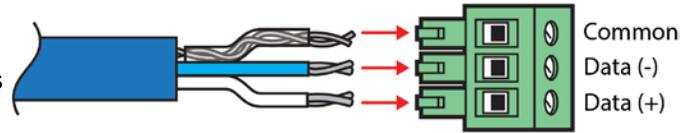

Figure 5. Cable pinout for DMX cables in and out of junction box.
5. Install included 3-position connectors on DMX cable as shown in Figure 5 making sure to insulate the shield wire with heat-shrink or electrical tape and plug into DMX board as shown in Figure 8.